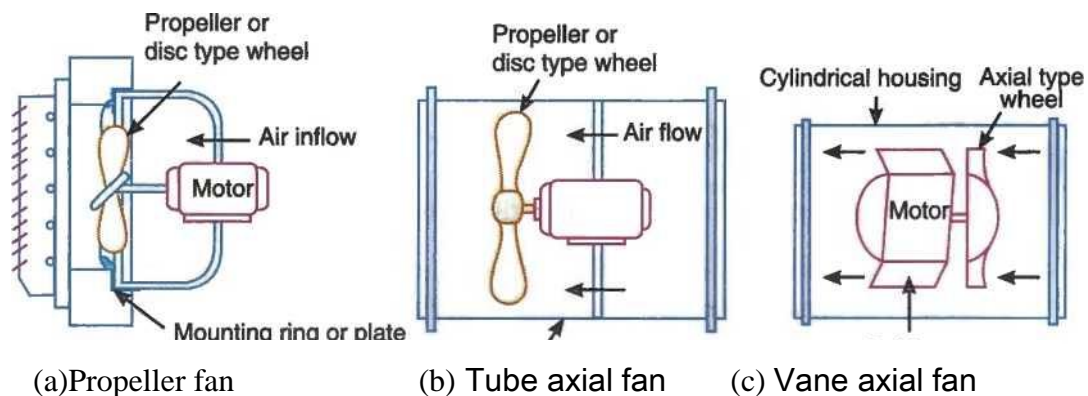

Fig. 4. Types of axial flow fans.
1. **Propeller fan.** A propeller type of axial flow fan consists of a propeller or disc type wheel which operates within a mounting ring as shown in Fig.4 (a). The propeller fans are used only when the resistance to air movement is small. They are useful for the ventilation of attic spaces, lavatories and bathrooms, removal of cooking odours from kitchens and many other applications where little or no duct work is involved.
2. **Tube axial fan.** A tube axial fan, consists of a propeller wheel housed in a simple cylinder as shown in Fig.4 (b). These fans are easily installed in round ducts. They are more efficient than propeller fans. The air discharge from tube axial fan follows a spiral path as it leaves the cylindrical housing.
with a set of air guide vanes, as shown in Fig.4 (c). The efficiency of operation and the pressure characteristics are better than those of tube axial fan.